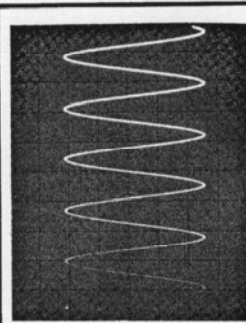

Figure 3-4. Variable persistence with a slow, repetitive sweep
- b. For variable persistence operation, use minimum INTENSITY and maximum PERSISTENCE compatible with desired display (figure 3-4).